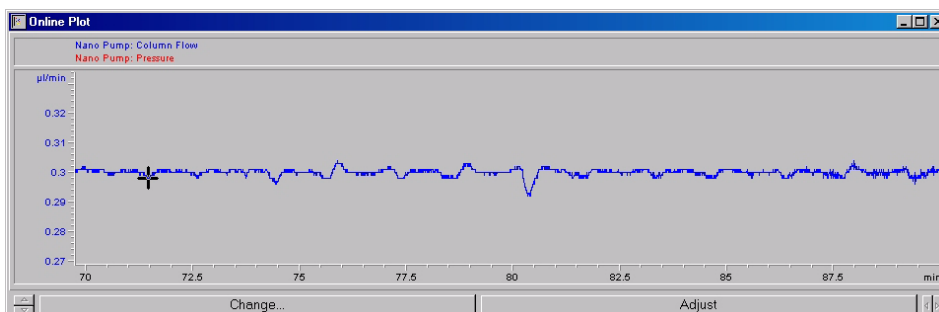
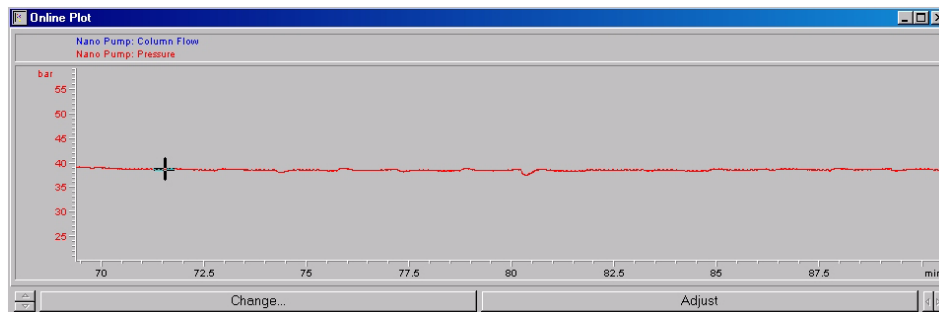

Figure 6 Desired stability of flow
Figure 7 Desired stability of pressure
- 4 Continue pumping at 0.3 $\mu\text{L}/\text{min}$. and monitor both the flow and pressure. For stable nanospray conditions, it is very important that the flow be stable. Ripple should be less than 3%. The flow and pressure plots should look similar to those in Figure 6 and Figure 7.